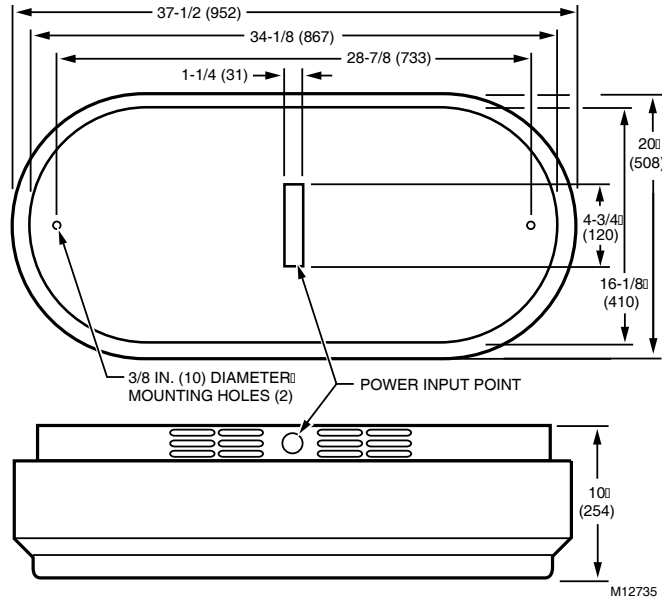

Fig. 1. Approximate dimensions of F114 in in. (mm).
See Fig. 1 and 2 for dimensions.
4. Insert fastening hardware (lag bolts, eye bolts or threaded rod) through the 3/8 in. (10 mm) mounting holes in the filter/motor bases. See Fig. 1 or 2.